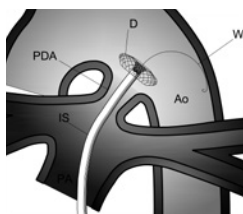

Fig. 15
- Verify the position of the Implantation Sheath (IS) and the implant with fluoroscopy.
- Slowly advance the pusher (P) to unfold the distal disc in the aorta. Fig. 15.